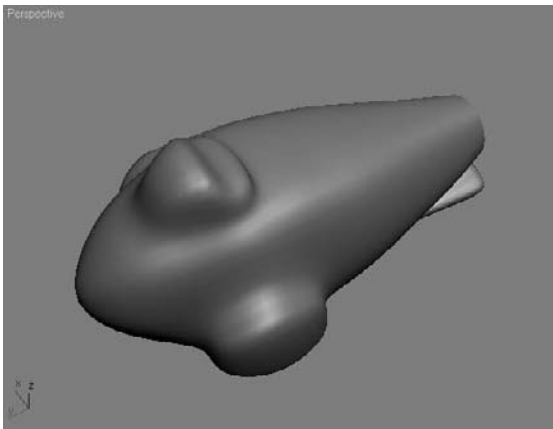

Figure 5.85
6. Go to Symmetry up in the Modifier Stack to view the whole body without the seam. Turn smoothing back on if necessary (Figure 5.85).